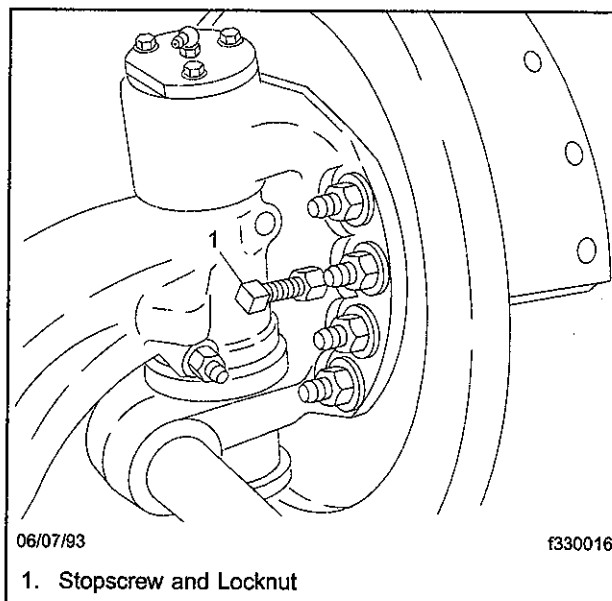

Fig. 8, Axle Stop
- 30.2 If necessary, loosen the stopscrew locknut; adjust the stopscrew to contact the axle when the maximum turning angle of the wheels is determined. See Fig. 8.